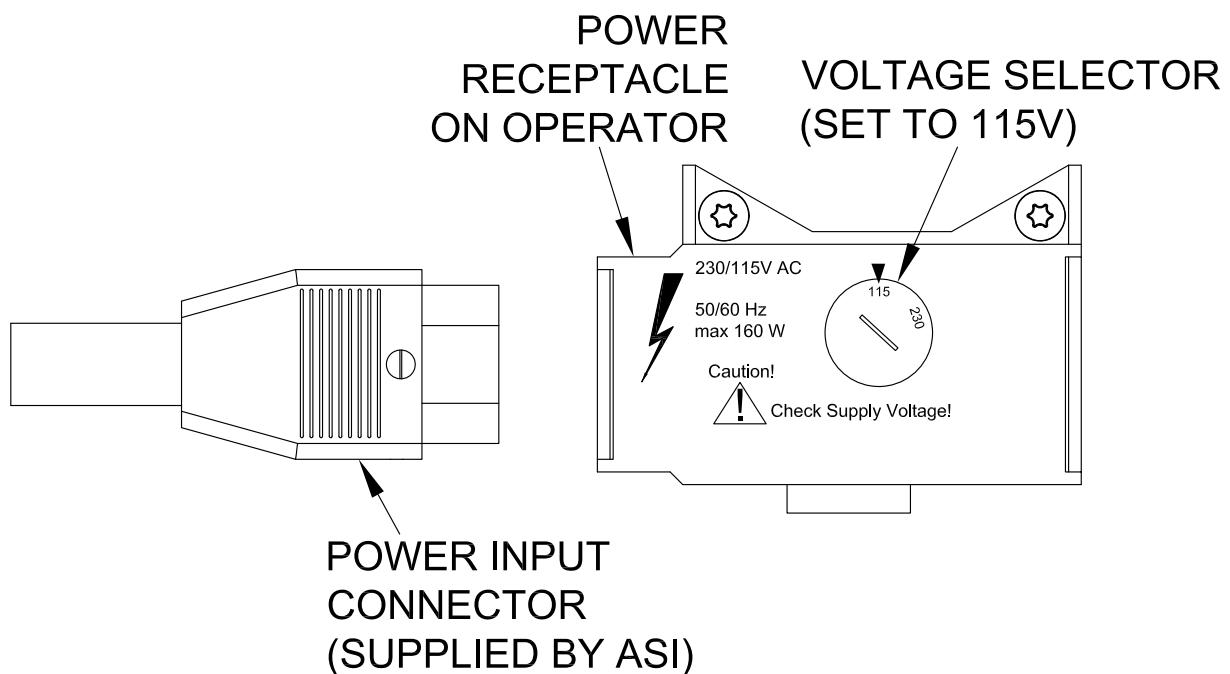

Figure 29: Power Input Connection
- Connect the power cord to the 115VAC grounded power inlet on the CONTROL UNIT (Page 25, Figure 29). Verify that the voltage setting on the control unit is set to 115VAC. Then route the cord through the header and out to the power source.
2. Check the correct setting of the voltage selector (Figure 29).